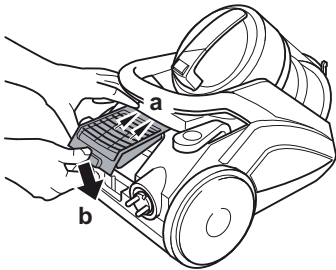

Fig. 34
7. Then replace the exhaust filter cover by hooking it in with the top side first (Fig. 34/a). Lock the cover by pressing firmly until you hear and feel it snap into place (Fig. 34/b).